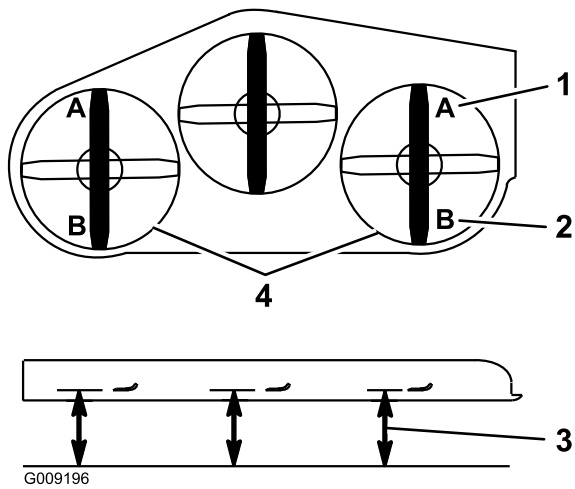

**Figure 92**
5. Push the deck-lift pedal all the way forward so that the deck latches at the 14 cm (5-1/2 inches) transport position (Figure 92).